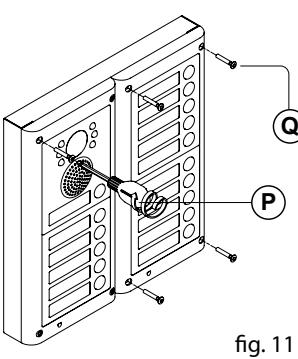

fig. 11
9. When the system has been tested and is working correctly, move back the module support frames carefully, fix them to the surface box using the screwdriver provided **P** (torx end) and the pin machine torx screws **Q** (**Fig. 11**). **Note: do not over tighten the screws more than is necessary.**